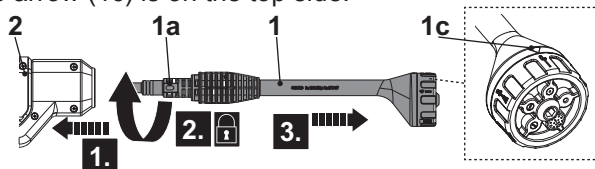

Fig. 1
1. Align and insert the tongues (1a) of the 5 in 1 lance (1) into the grooves of the spray gun (2) connection port (Fig. 1, step 1).
2. Turn the 5 in 1 lance (1) clockwise (step 2) and then pull it to outside slightly (step 3) to lock it in place (step 3).